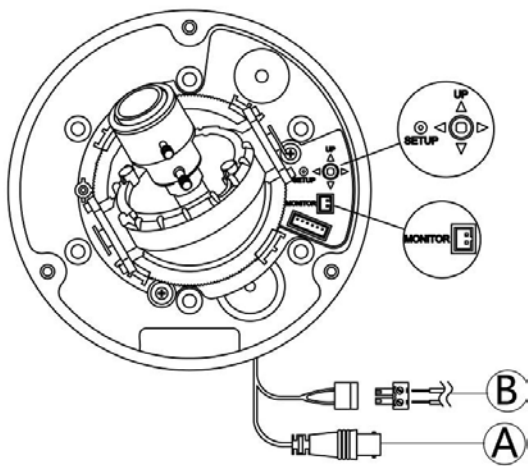

Figure 1-1 FD5-V9-6(X)
Refer to Figure 1-1/1-2/1-3/1-4 to connect the video connect output connector (A) and 24 VAC/18 to 32 VDC power connector (B).